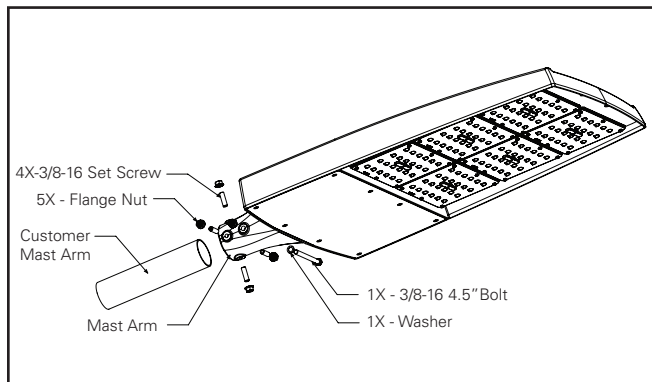

Figure 8.
3. Open fixture door by loosening the (8) Phillips head screws (or thumb screws if supplied) on the door as shown in (Figure 8).
4. Remove wire grommet for fixture wires at the back of the fixture as shown in (Figure 8). Once removed, fixture is no longer IP rated.
Mast Arm, Fixed (FMA) (Fig. 8)